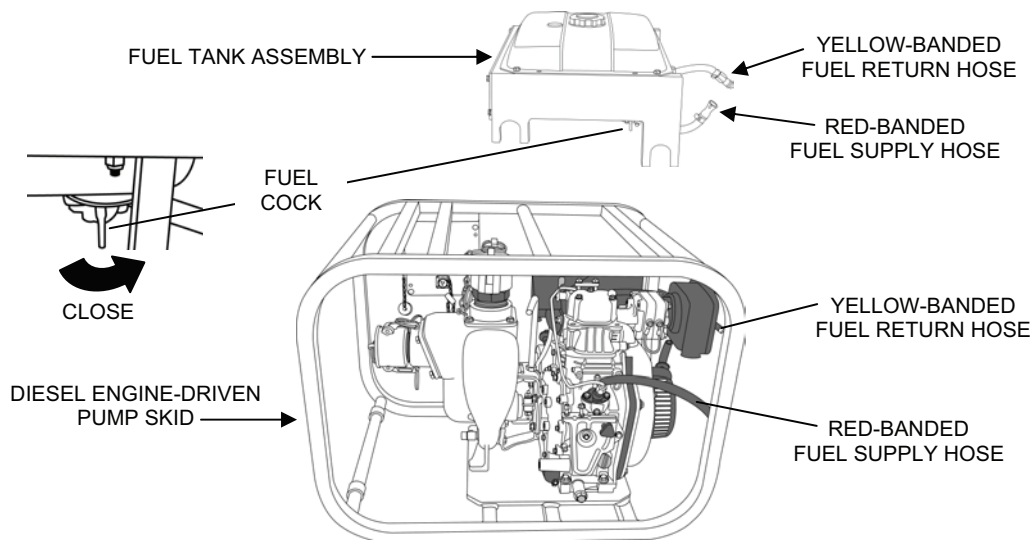

Figure 1. Raw Water Pump P-1 Skid Fuel Tank Assembly Removal.
1. Remove the fuel tank assembly from the skid as follows (see Figure 1):